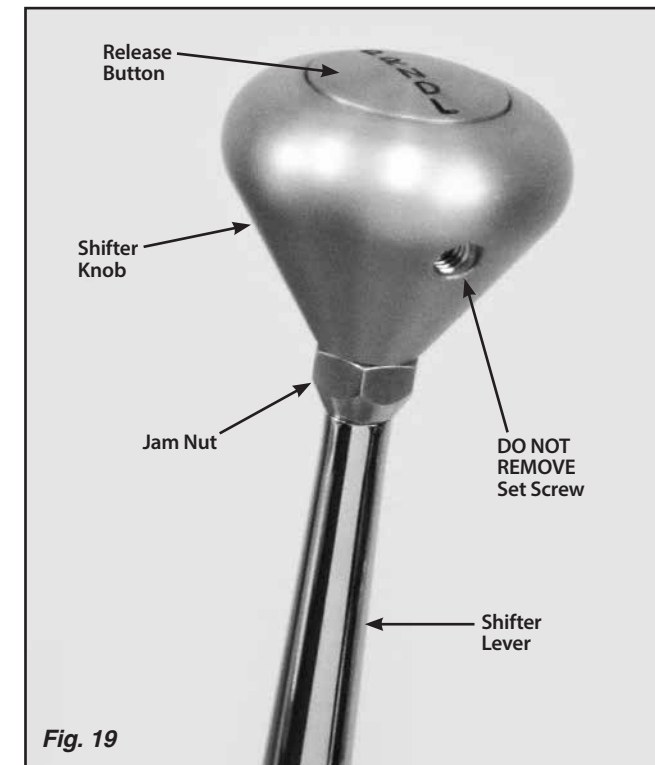

Fig. 19
- Step 2:** Loosen the jam nut below the shifter knob. **DO NOT** loosen or remove the set screw that is in the knob. **Fig. 19**